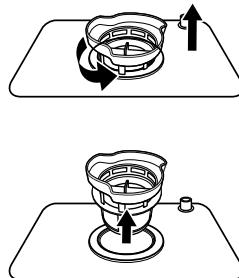

Fig. 24 – Removing the filter
- ▶ To remove the filter, twist off the fine filter and remove it (see Fig. 24).